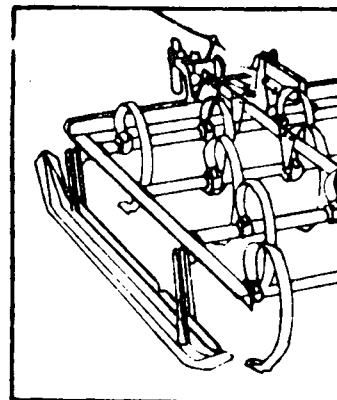

Fig. 5
*Skids* are fixed to the *frame* (see Figure 5) which limit the working depth of the implement. When instead of skids the machines have depth wheels, the implement is called a cultivator.